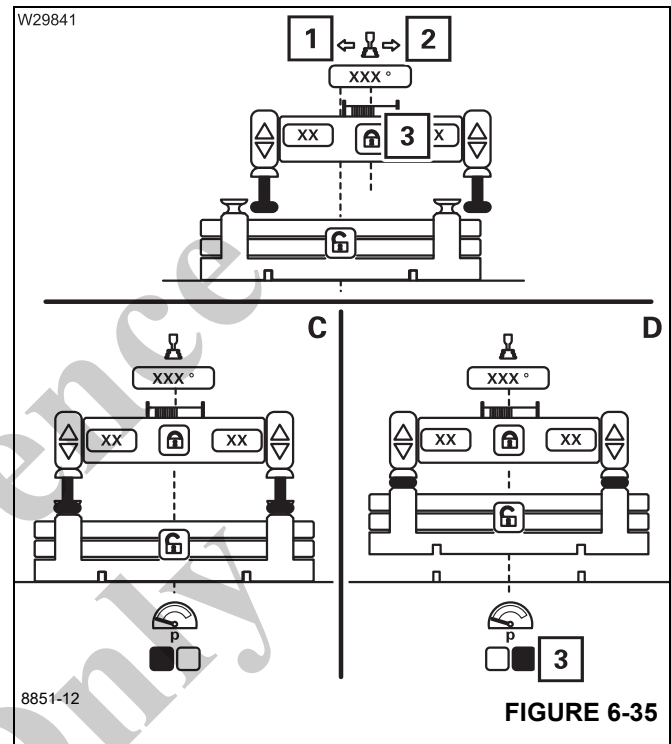

FIGURE 6-35
- To swing, move the control lever in the displayed direction (1), (Figure 6-35) or (2) – the automatic mode continues:
- The superstructure turns into position (C).
- The lifting cylinders are retracted (D).
- The counterweight is pre-charged – symbol (3) green.